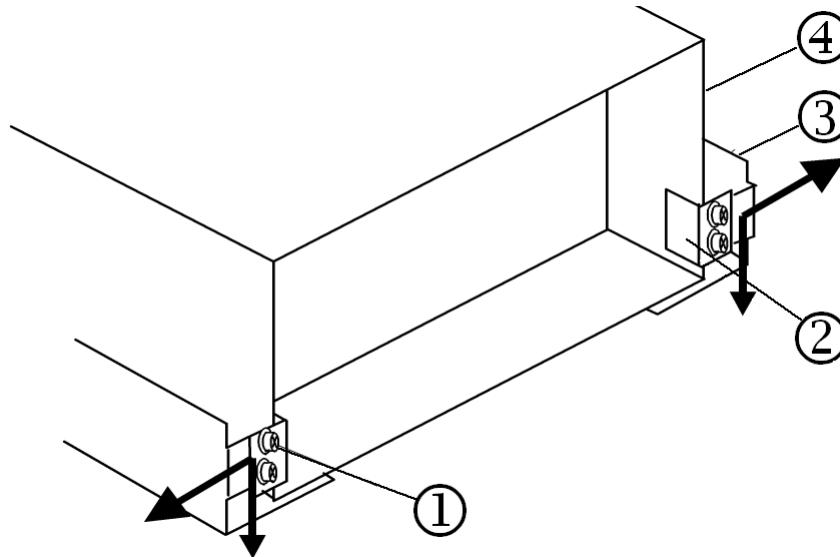

Figure 5-32: Securing Rear of the Array
①	Array	③	Mounting Slot	⑤	Rack
②	Mounting Screw, M5-10	④	Nut	⑥	Rail
2. As shown in Figure 5-32, fasten the rear side of the array to the rack rails.